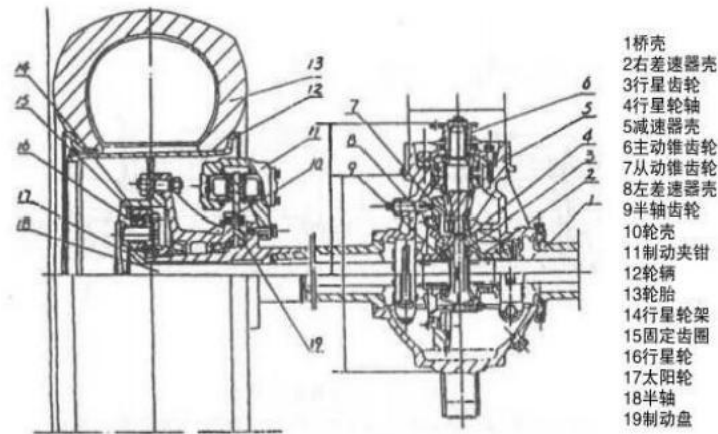

Figure 2-15 General view of the drive axle
Figure 2-15 shows the structure of the drive axle. It is mainly composed of axle housing, main drive (including differential), half shaft, wheel edge reducer and tire hub assembly.
The principle of wheel planetary transmission can be seen in Figure 2-15. As can be seen from the figure, the sun wheel driven by the half-shaft with splines connected with it rotates in the same direction with n too speed, and the planetary gear combined with the sun wheel rotates in the opposite direction, because the tooth ring is fixed, so the planetary frame is driven in the same direction with the speed n frame and the sun wheel, and the n frame is less than n too.
2. Working process (see Figure 2-15)